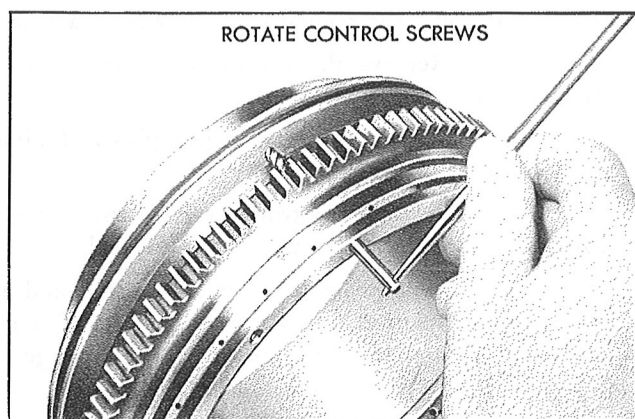

Figure 187—Installation of Control Ring, Models A632S-A1, -A2
c. Run the brass control ring up on the control screws by alternately turning the control screws clockwise until the control ring seats firmly against the regulator gear flange. See Figure 187.